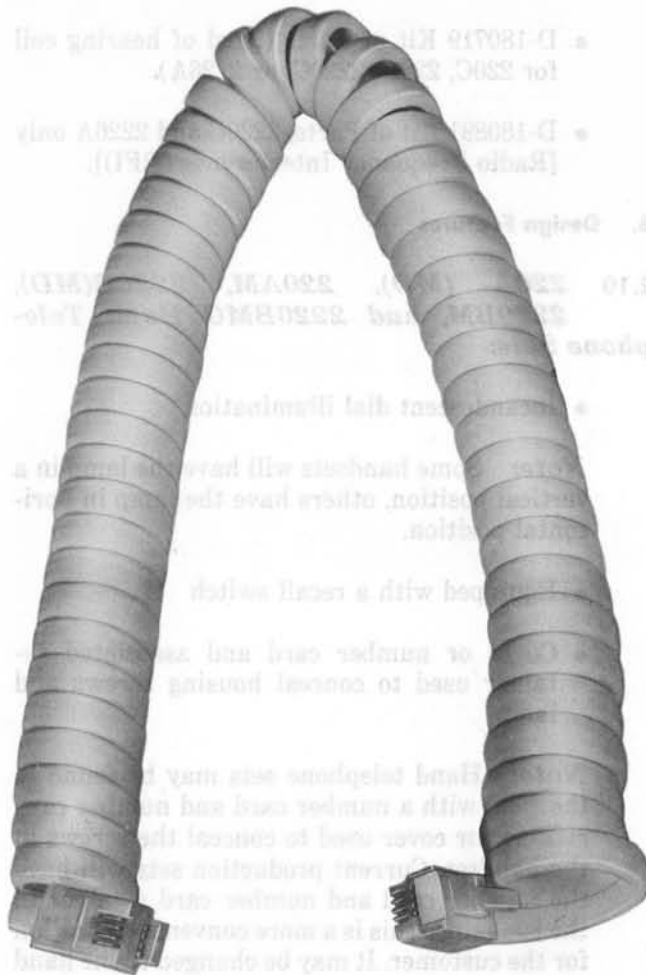

Fig. 7—H4DU Handset Cord
- Cord, Handset, H4DU-* (6 and 12 foot lengths) used with mini-modular jacks and adapters (Fig. 7)